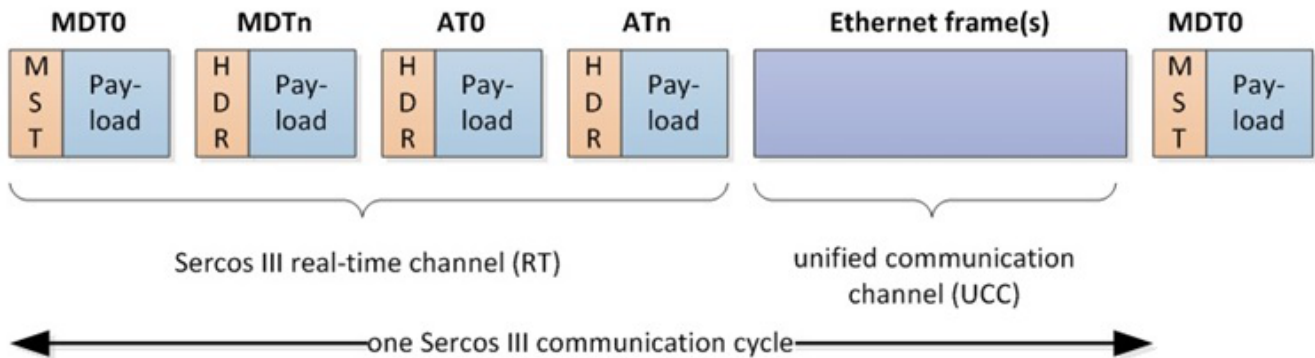

Figure 2. Sercos III Time Multiplexed Communication Cycle
The communication protocol is time-multiplexed, which is shown in Figure 2. Within one Sercos III communication cycle is a time slice dedicated to real-time Sercos III frames called real-time (RT) channel. In this time slice, the master and slave exchange process data, which is used within the programmable logic controller (PLC). In the second time slice, known as unified communication channel (UCC), all devices (master and slaves) in the network can exchange standard Internet protocol (IP) telegrams. UCC is used to exchange information of a Web server, update device software with trivial file transfer protocol (TFTP), or transfer Ethernet frames for any kind of IP-based applications.